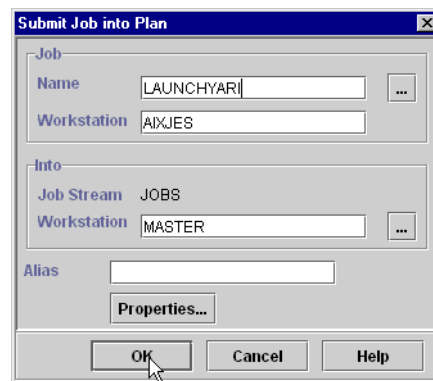

Figure 142. Select **LAUNCHYARI** job
7. Press **OK** to submit job from TWS as shown in Figure 142.